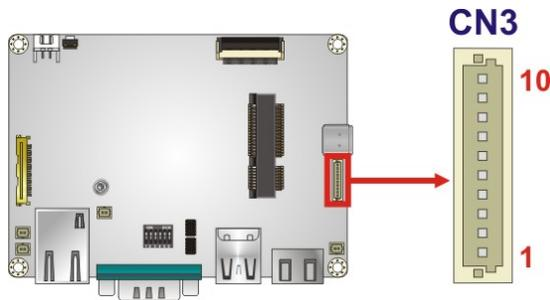

Figure 3-7: Earphone Connector Location
- CN Location:** See **Figure 3-7**